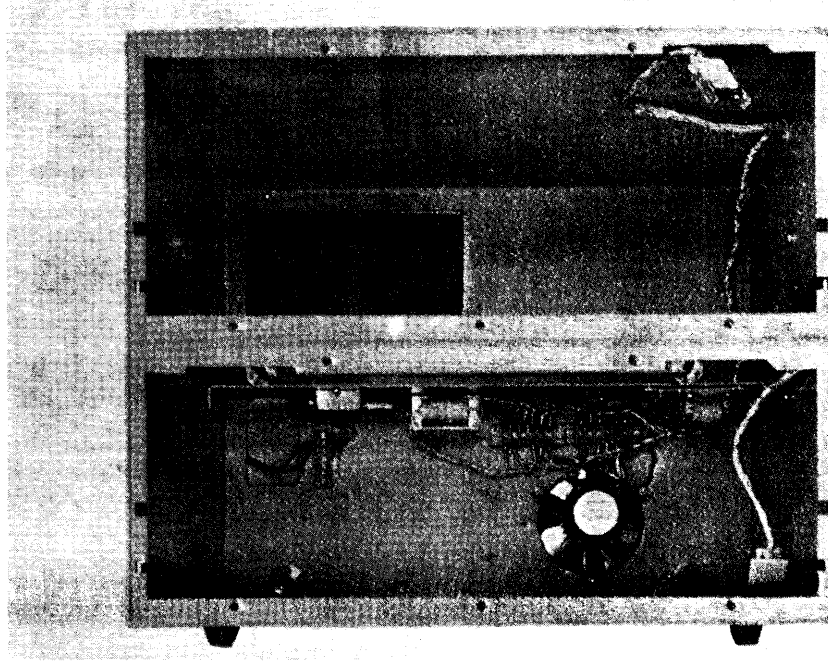

Figure 1-4, Electrical Equipment Case CY-2726A/
(1) CALIBRATION-CONTROL UNIT. The Calibration-Control unit produces a calibrated pulse output signal. It contains circuitry for automatic signal level control and metering circuits for indicating wavemeter resonance. The meter is also used to give an indication of the prf of pulse signals being counted. The Calibration-Control unit also contains the mode 4 reply decoding circuitry.
(2) INTERROGATION CODER. This unit generates simulated Mark X IFF interrogation signals. An ISLS pulse can be added to the basic interrogation signal when desired. The Interrogation Coder is capable of independently producing interrogations in modes 1, 2, 3/A, and C. For Mode 4 interrogations only the four synchronizing pulses are produced by the test set. In addition, the Interrogation Coder produces mode identification pulses for replies. It also provides reset tag signals consisting of three pulses (8, 2 and 4 microseconds wide, spaced 2 and 3 microseconds apart). The output pulses can be used internally to modulate the signal generator and are also available at a front panel connector for external use.
c. ELECTRICAL EQUIPMENT CASE. Electrical Equipment Case CY-2726A/UPM-98 shown in figure 1-4 is used on Radar Test Sets AN/UPA-98A and C Electrical Equipment Case CY-2726/UPM-98 is used on Radar Test Set AN/UPM-98B. The cases provide the necessary electrical interconnections between the major assemblies through two nine-contact connectors that mate with similar connectors on the drawer chassis. A blower is mounted in the rear of the case to provide air circulation through the major assemblies.